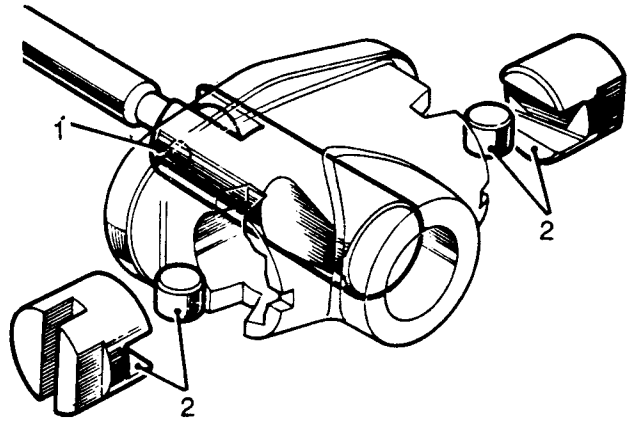

Fig K2.10
- (4) Refer to Fig K2.10. Grease and fit the expander rod (1).
- (5) Grease and fit the plungers and rollers (2).